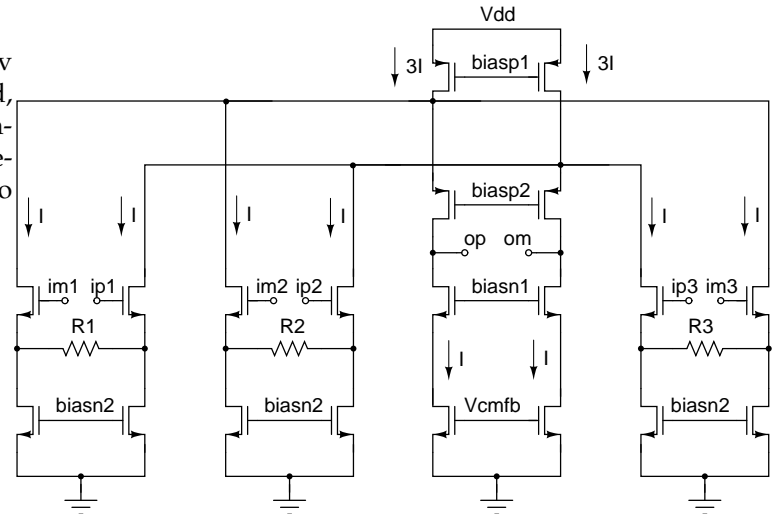

Figure 2: Three input transconductor.
- Consider the improved design shown in Figure 2. This is a 3-input transconductor, where the current summing is performed at the cascode node, rather than the output node. The PMOS cascode device and the the NMOS current sources of the output stage operate with currents of  $I$ . Analyze the performance of this circuit and compare with the case where you shorted the three transconductors at the output. The parameters you must consider are transconductor DC gain, linearity, output noise and parasitic pole.